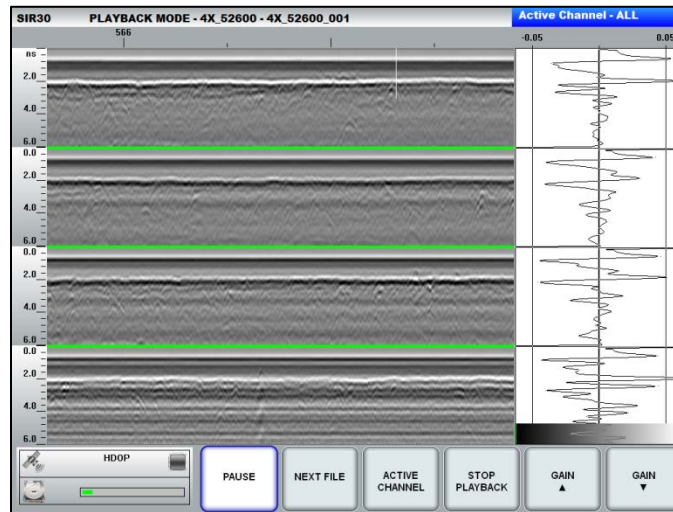

Figure 144: 4 Channel Playback - Same Gain applied to all channels.
- 3** During file playback, if the User wishes to stop the file scrolling, select the PAUSE button from the control bar (Figure 144). The User may apply specific filter and gain settings to each individual channel by selecting the active channel and applying the desired processing functions.